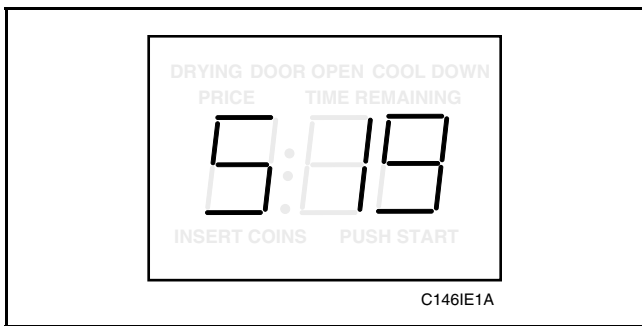

Figure 49
- While pressing and holding the HIGH TEMP pad with one hand, press the MED TEMP pad with the other hand. Programmable option number 1, (Audio Signal “SIg”), will appear in the VFD, *Figure 49*.